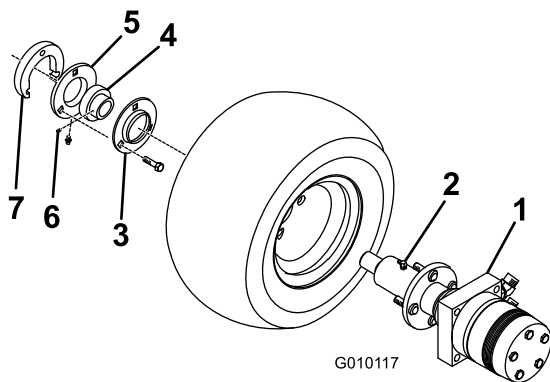

Figure 1
5. Remove the grease fitting from the motor and hub assembly (Figure 1).